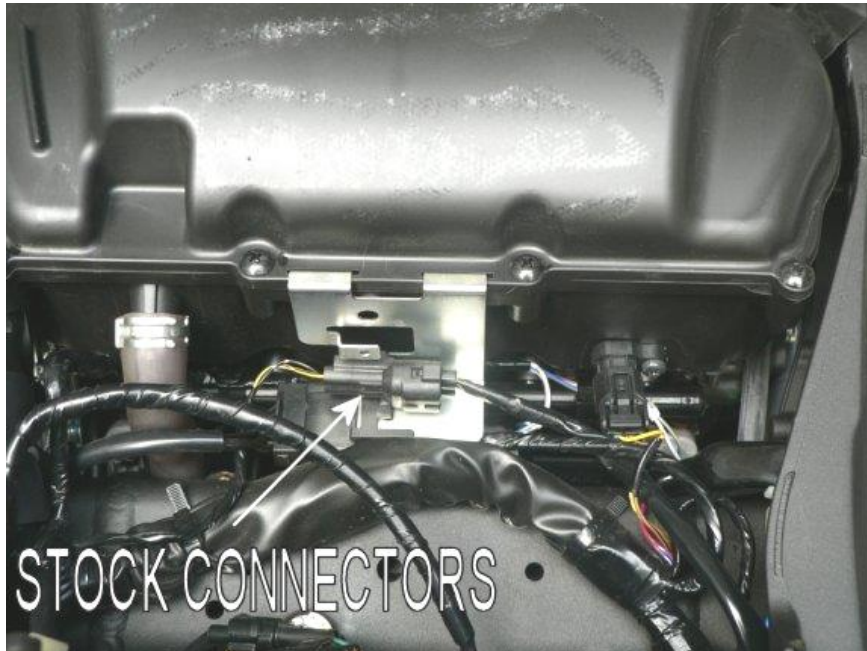

Fig.3
5. Locate and disconnect the 3 pin black connector under the fuel tank (Fig.3).